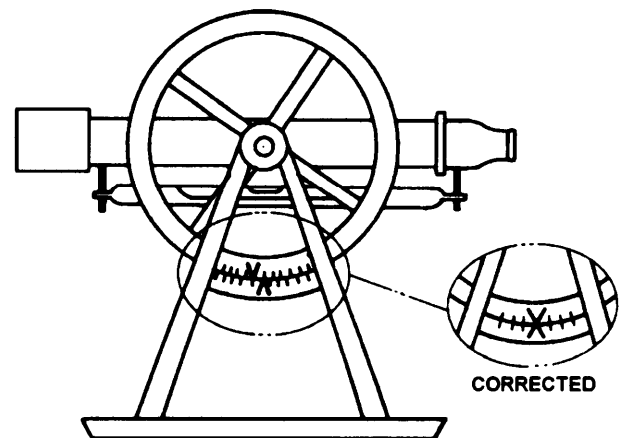

Figure 6-9.—Adjusting the vertical circle vernier.
**ADJUSTING THE VERTICAL CIRCLE VERNIER.**— For vertical angles to be measured without index error caused by displacement of the vertical circle vernier, the vernier should read zero when the plate bubbles and telescope bubbles are properly leveled. To make the vertical circle vernier read zero when the instrument is leveled (fig. 6-9), you should perform the following steps: